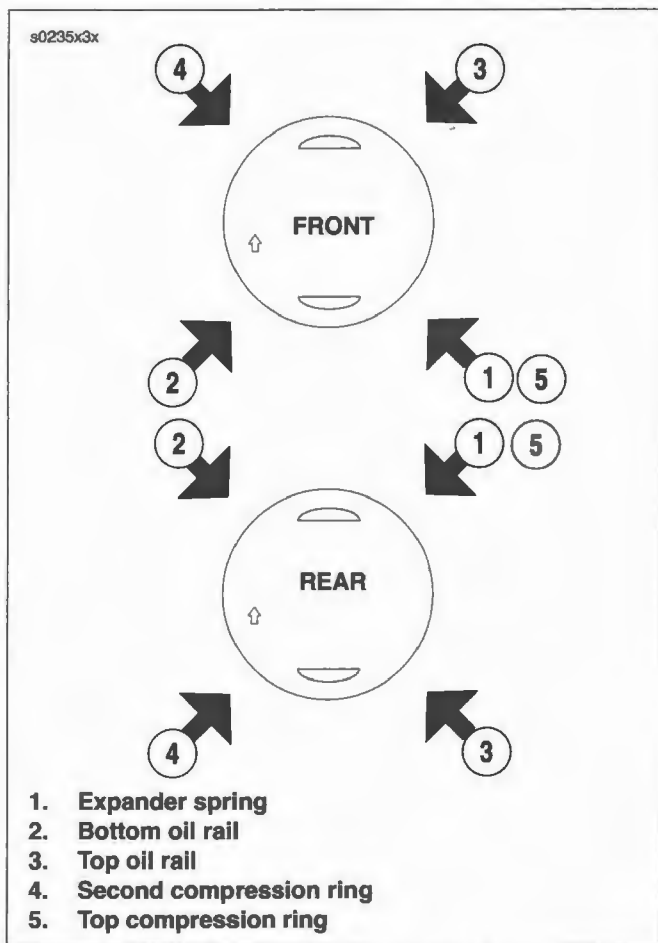

Figure 3-33. Piston Ring Alignment
3. See Figure 3-33. Verify that the piston ring end gaps are staggered. Rotate each ring to position the gap 90 to 180 degrees from the gap in the ring above it. Locate the top piston ring (5) gap towards the intake port.